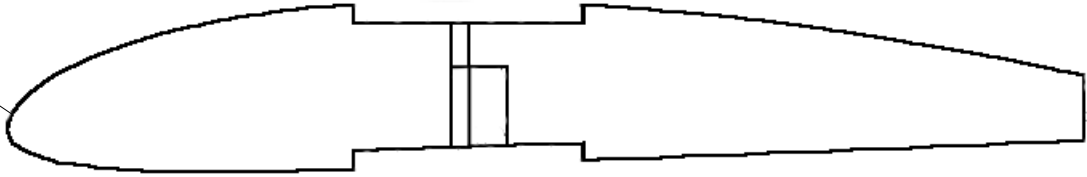

Figure 27
Rub the zig zags and hair off of the wing cores with a piece of scrap EPP foam. Lightly sand the wing panels (cores) sanding block with #320 paper. Lightly blocksand the leading edge (LE) to round off any sharp edges. (See Figure 27)